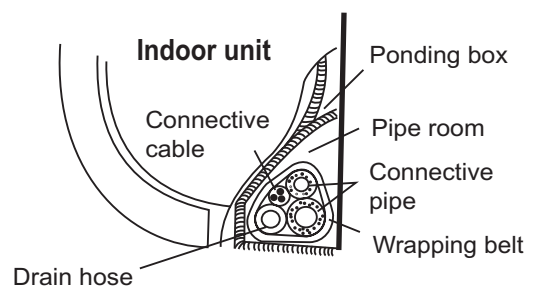

Fig.11
Bundle the tubing, connecting cable, and drain hose with tape securely, evenly as shown in Fig.11.
- e. Regulate the panel in the direction of the arrow in Fig.11 slightly to fit the panel's center to the center of the ceiling's opening. Guarantee that hooks of four corners are fixed well.